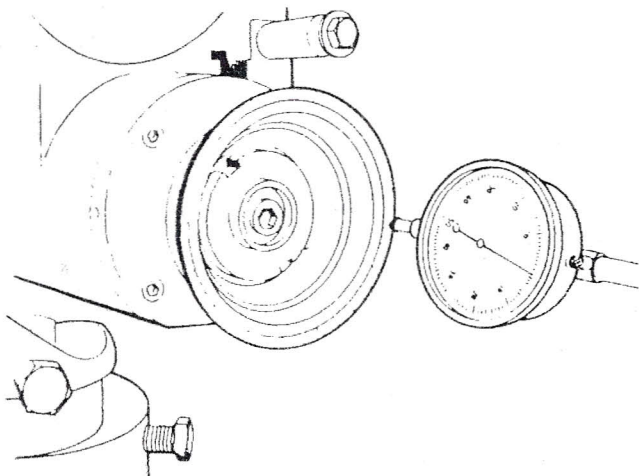

Fig. 8-14
- b. **Wheel Face.** Face wheels are usually trued by the manufacturer and should have very little runout. If a runout greater than 0.0005 in. (0.01 mm) is indicated, the wheel must be trued (Fig. 8-14).